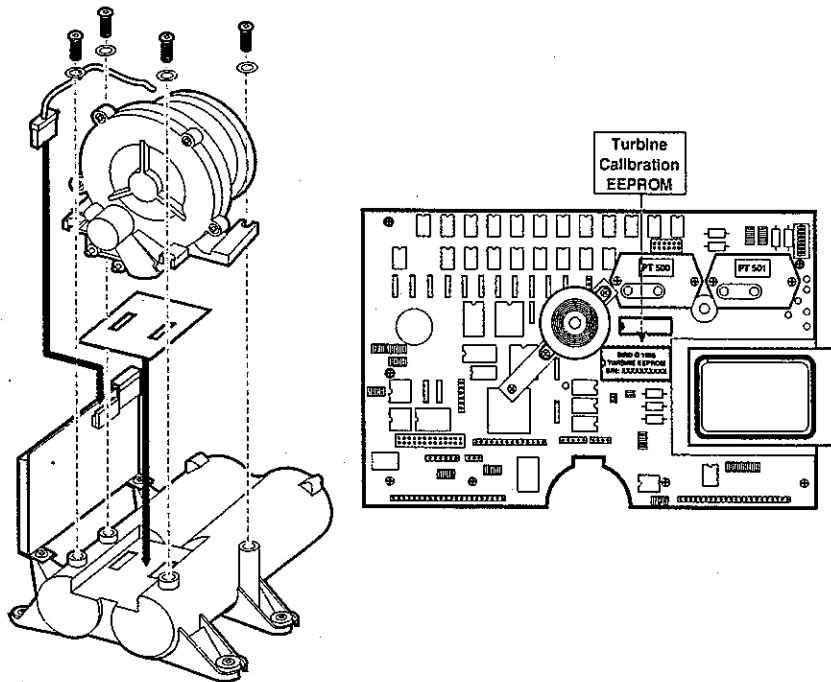

Figure 5-14. Turbine Assembly
- 4 Label and remove the two (2) pneumatic connections from the turbine.
- 5 Referring to Figure 5-14, remove the four (4) screws from the base of the turbine.
- 9 Referring to Figure 5-14, install the new turbine EEPROM making sure that the notch is facing to the left and that pins are properly aligned and engaged. Do not rely on the position of the label for installation.